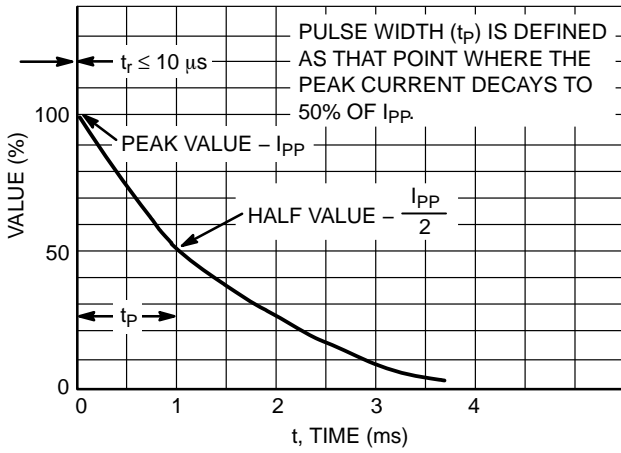
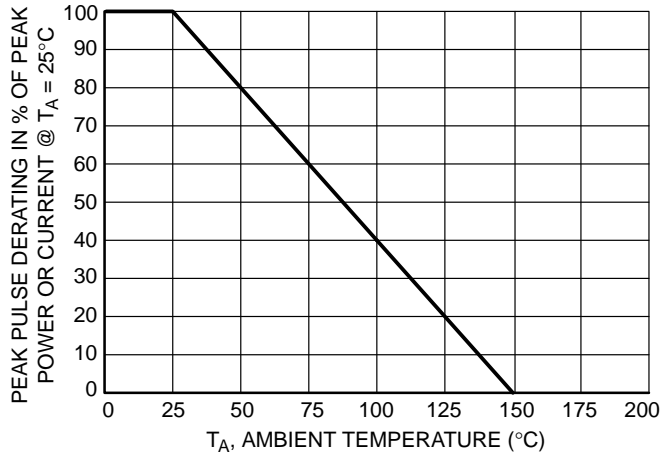

Figure 5. Pulse Waveform
Figure 6. Pulse Derating Curve
1. Non-repetitive current pulse per Figure 5 and derate above $T_A = 25^\circ\text{C}$ per Figure 6.
5. Surge current waveform per Figure 5 and derate per Figure 6